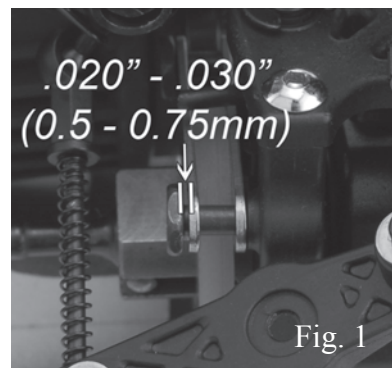

Fig. 1
3. Using a 4-40 washer as a gauge, adjust the brake screw to set the gap between the head of the screw and the brake pad to .020 - .030" (0.5 - 0.75mm). The washer should not snug into the gap. (Fig. 1)